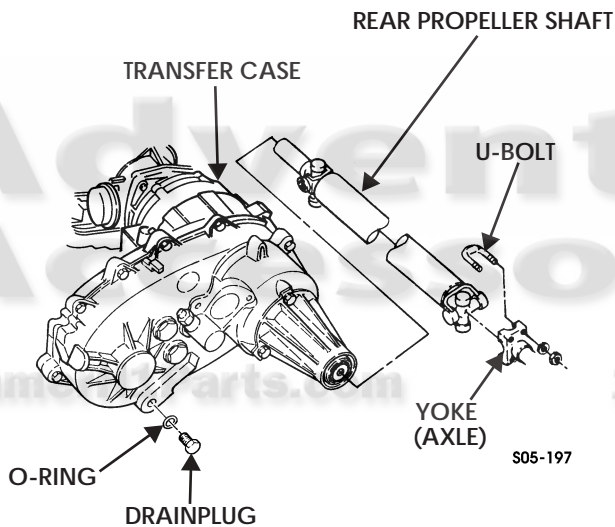

Figure 5-120: Transfer Case Drainplug
1. Remove drainplug and O-ring, and drain oil from transfer case. Reinstall drainplug and tighten to 35 lb-ft (47 N•m) (Figure 5-120).